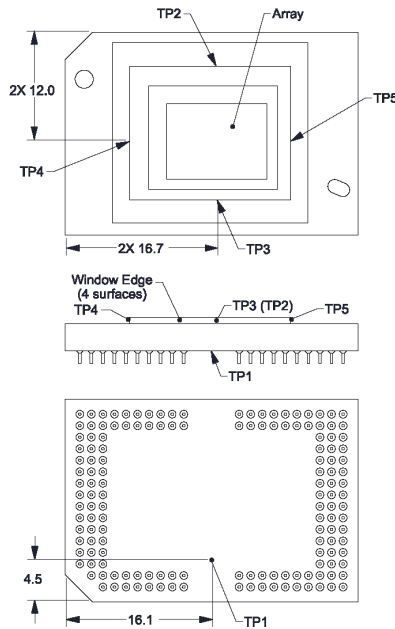

Figure 16. Thermal Test Point Location
Achieving optimal DMD performance requires proper management of the maximum DMD case temperature, the maximum temperature of any individual micromirror in the active array, the maximum temperature of the window aperture, and the temperature gradient between case temperature and the predicted micromirror array temperature. (see Figure 16).
The DMD is designed to conduct absorbed and dissipated heat to the back of the Series 450 package where it can be removed by an appropriate heat sink. The heat sink and cooling system must be capable of maintaining the package within the specified operational temperatures, refer to Figure 16. The total heat load on the DMD is typically driven by the incident light absorbed by the active area; although other contributions include light energy absorbed by the window aperture and electrical power dissipation of the array.
The temperature of the DMD case can be measured directly. For consistency, Thermal Test Point locations TP1 - TP5 are defined, as shown in Figure 16.
Micromirror array temperature cannot be measured directly; therefore it must be computed analytically from measurement points (Figure 16), the package thermal resistance, the electrical power, and the illumination heat load. The relationship between micromirror array temperature and the case temperature are provided by Equation 1 and Equation 2:
- $T_{Ceramic}$ = Ceramic temperature (°C) (TC2 Location Figure 16)
- Q_{ILL} = Absorbed illumination energy (Watts) (2)